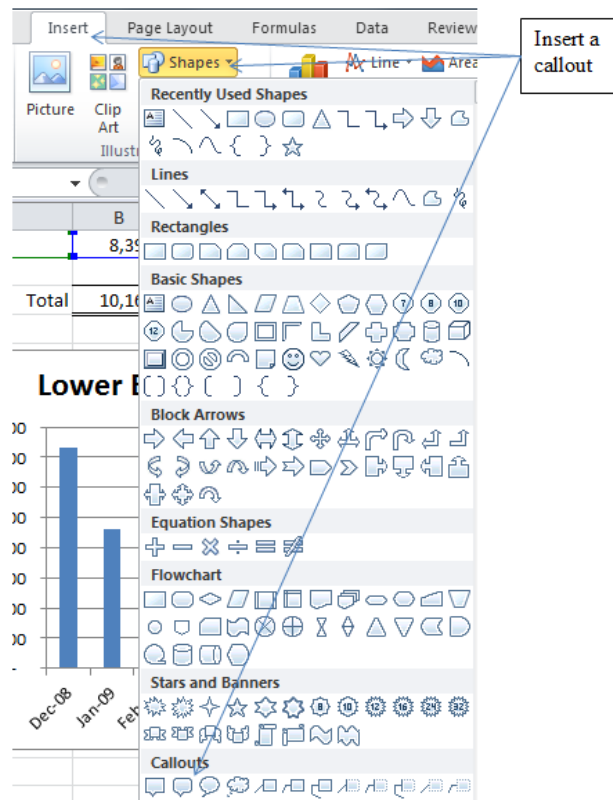

Figure 3.42. Callouts on the Shapes menu
3. On the Insert tab, in the Illustrations group, click the Shapes button. A menu of shapes displays, as shown in Figure 3.42